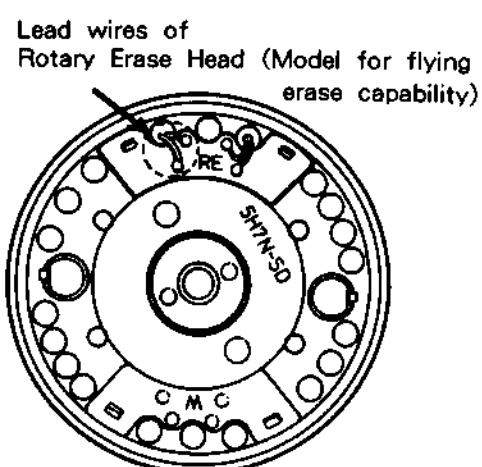

Fig. 2-11-4
- 2) In case the RE (ROTARY ERASE) HEAD is attached to the upper drum (UPPER CYLINDER), remove the lead wires soldered from the P.C. board. (See Fig. 2-11-4.)
- 2) The code name ① of the drum is printed on the video head side of the upper drum ⑤ SP CH-1 (channel A, plus azimuth). The code name ① is set with in the rotary transformer terminal round hole side ② position of lower drum (LOWER CYLINDER), so that the two screw holes ③ of the upper drum are aligned with the two screw holes ④ of the flywheel. (Refer to 3. Recognizing the SP CH-1 Head side.)
- 3) In case the RE (ROTARY ERASE) HEAD is attached to the upper drum, pass the lead wires through the lead wire hole. (See Fig. 2-11-4.)
- 4) While keeping the upper drum ⑤ parallel to the lower drum (LOWER CYLINDER) ⑧, insert it completely into the flywheel.
- 5) Temporarily tighten the two screws ⑦ alternately a little at a time, then tighten them to a torque of 6 kg-cm using a torque driver (VHJ-0014) and a 3 mm bit (VHJ-0045).
- 6) In case the RE head is attached to the upper drum ⑤, solder the lead wires to the P.C. board. Solder the red lead wire to the R terminal, and the yellow lead wire to the Y terminal.